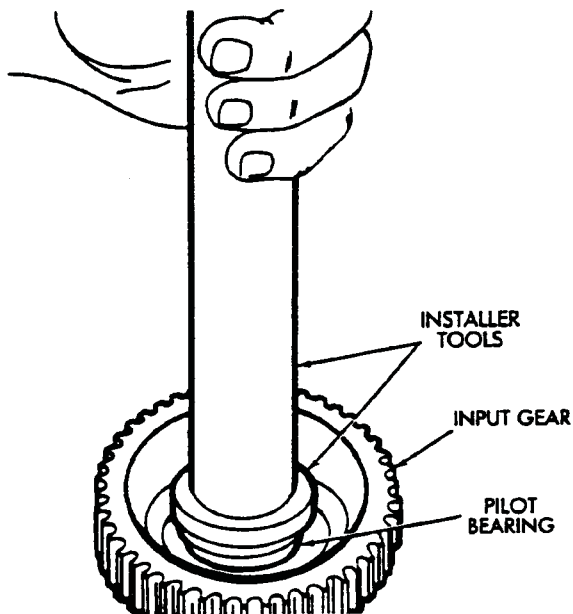

Fig. 4-35 Installing Mainshaft Pilot Bearing
18. Install the new pilot bearing (Fig. 4-35).